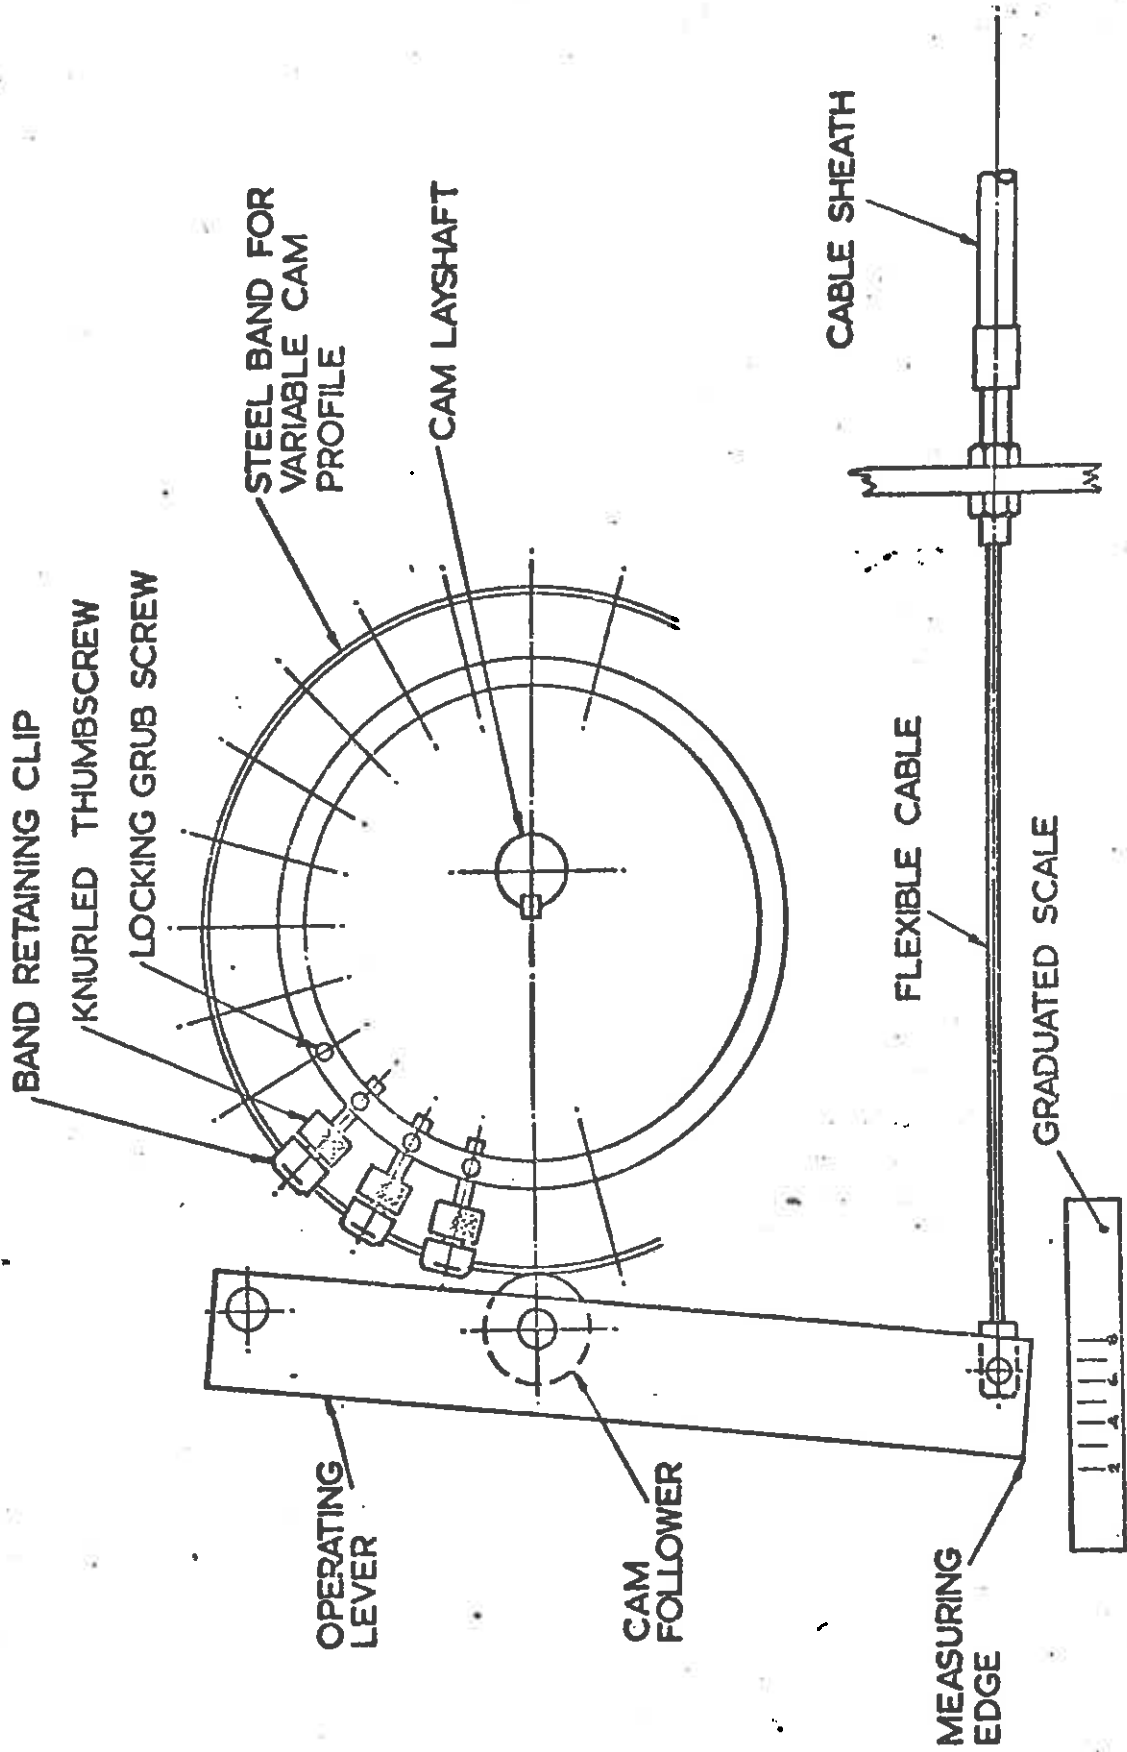

FIG. 2A DETAIL OF MODULATING AIR OR GAS CAM MECHANISM
5.5.2 It follows from 5.5.1 above that the volume of air required for combustion must be varied as the nozzle output is varied, and this is done by the air control damper, which is operated by a flexible ('Bowden') cable from a simple lever bearing on the air inlet control cam (see Fig. 2A). Once the oil cam has been adjusted as described below under commissioning procedure, the profile of the air cam is adjusted to give the desired combustion conditions by screwing the thumbscrews under the cam strip in or out as the burner is 'inched' up through its firing range.
5.5.3 Having profiled the air cam to suit the oil throughput as defined by the oil cam, the gas cam (Fig. 2A), which is identical to the air cam is then profiled to suit the air cam. This is done by inching the burner through its firing range on gas, and adjusting the gas cam to give the desired flue gas analysis at each stage.